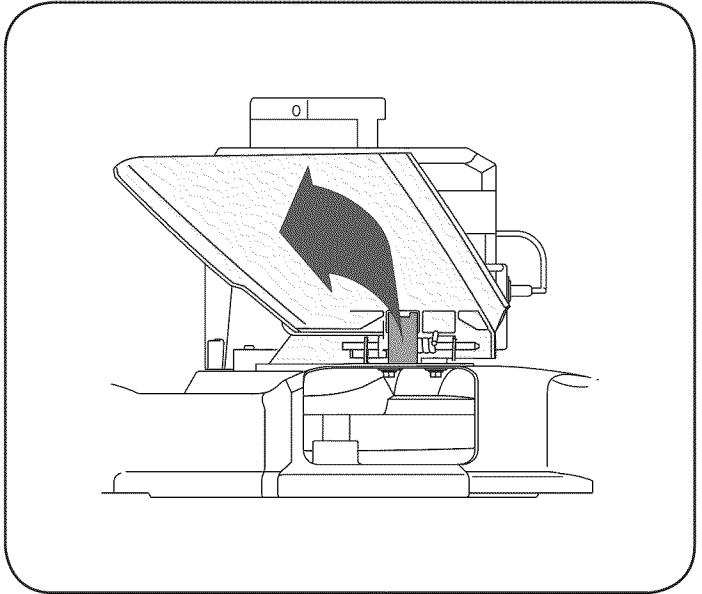

Figure 1
1. Push the discharge cover up towards the engine. Holding the deflector in this position, remove the retainer and discard. See Figure 1.